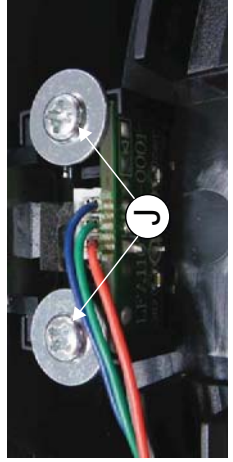

Figure 9
- 1) Loosen 2 screws "J" on the top of Remote Board as shown in figure 9.